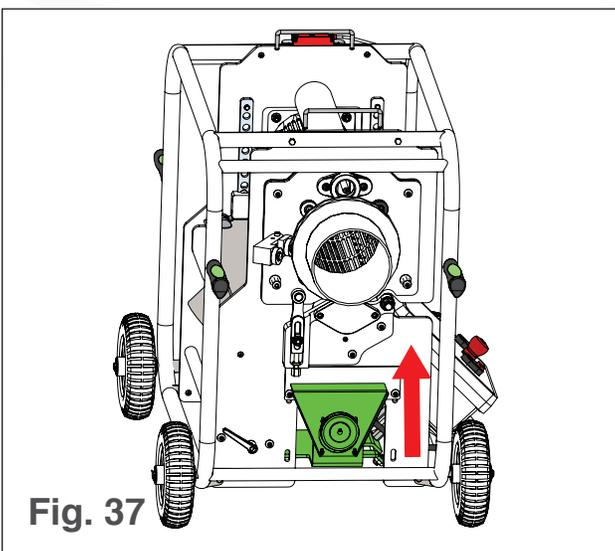

Fig. 37
2. Lift the tumbler motor pulley (see Fig. 37).